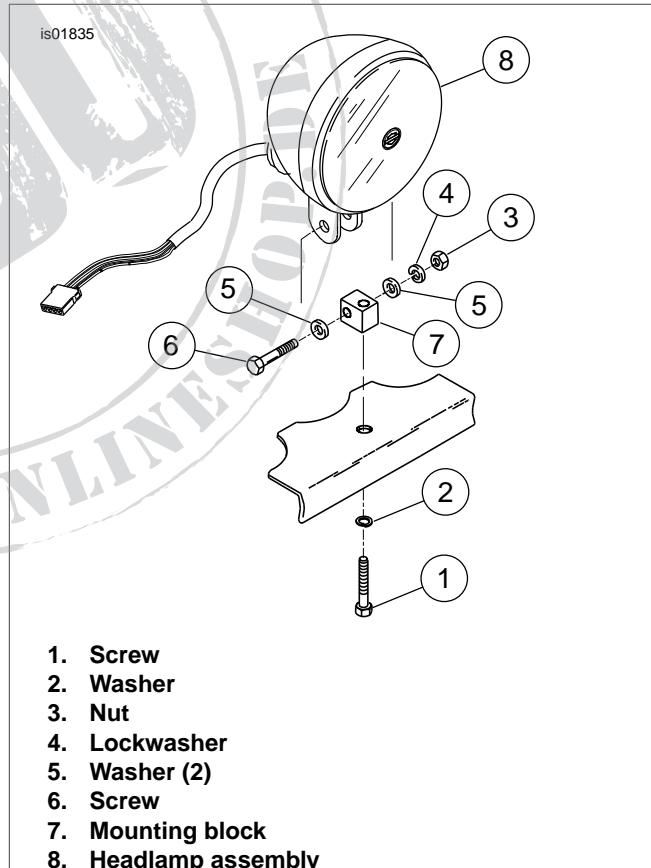
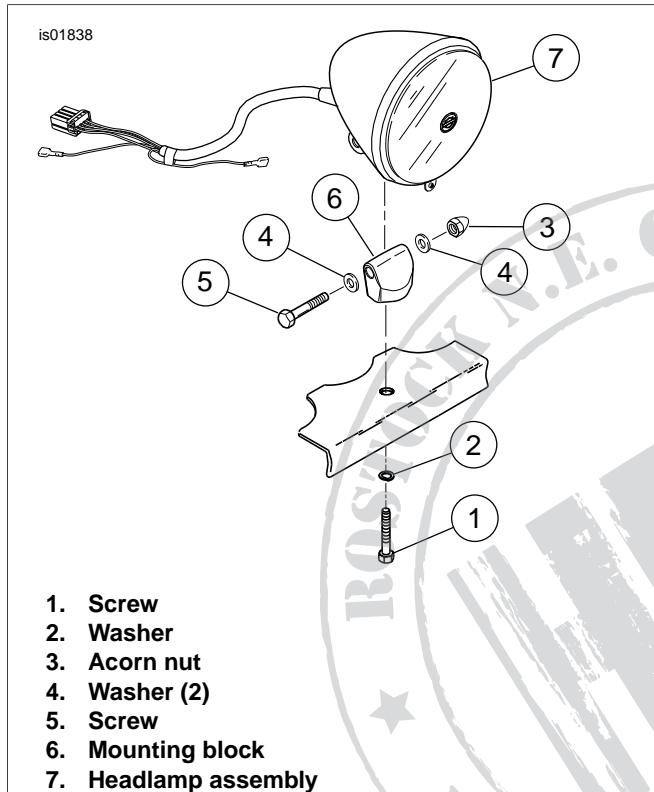

Figure 1. Softail and Dyna Headlamp Assembly with Mount (except FXSTD)
Figure 2. FXSTD Headlamp Assembly with Mount
4. *All Softails (except FXSTD):* See Figure 1. Remove screw (1) and washer (2) from stem and bracket. Discard screw but save washer for later use.
5. Remove and discard mounting block (7) and headlamp assembly (8).
6. *FXSTD models:* See Figure 2. Remove screw (1) and washer (2) from stem and bracket. Save screw and washer for later use.
7. Remove and discard nut (3), washers (4), and screw (5).
8. Remove and discard mounting block (6) and headlamp assembly (7).
6. See Figure 1. Remove screw (1) and washer (2) from stem and bracket. *2005-Earlier FWDWG*: Discard screw but save washer for later use. *2006-Later FWD*: Save screw and washer for later use.